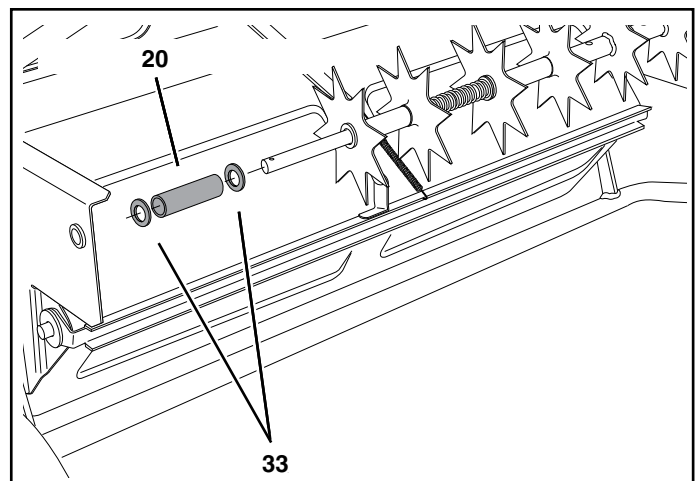

FIGURE 18
- Place two 5/8" flat washers (33) separated by a long spacer tube (20) onto the shaft. See figure 18.